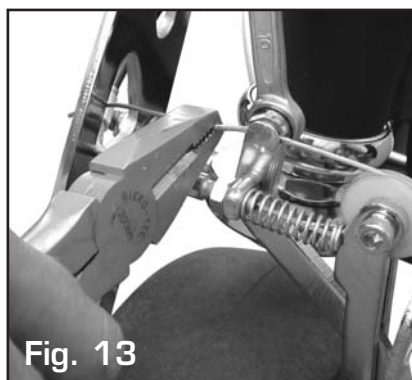

Fig. 13
6. Once there is no more room for adjustment, the tension screw needs to be turned in all the way. The cable (Fig. 13) then needs to be pulled through the grub screw and be fastened. The freeplay can then again be taken up by the tension screw.